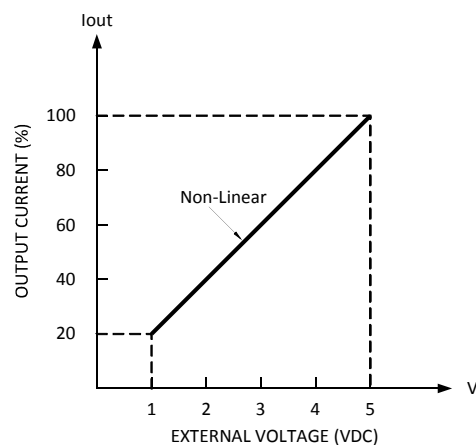

Fig 4.2
- Trimming of output current is allowed between 20~100%(Typ.) of the rated output current as shown in Fig 4.2.